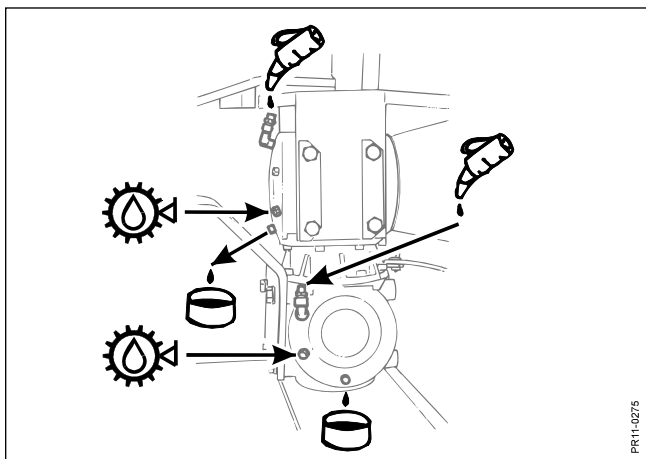

Fig. 4-8
- Fig. 4-8 **Oil content:**  Upper part: 1.0 l